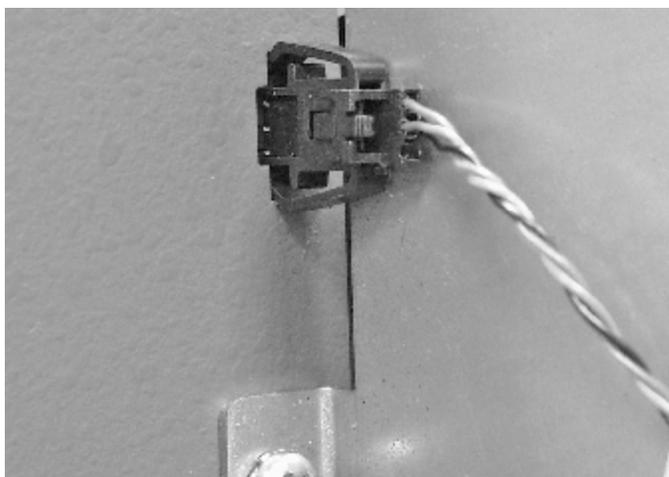

Figure 9 Paper-out Sensor Connection
5. Connect the Paper-Out Sensor harness as shown in Figure 9.